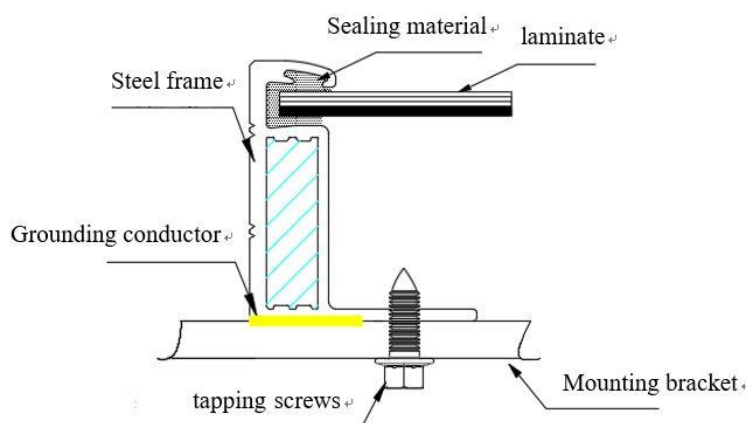

Fig.11-2 ST 4.8 pan head tapping screw grounding
- On a grounding hole with a diameter of $\phi 4$ mm, use a separate grounding wire and related accessories to connect the frame and connect the grounding wire to the ground. M4 x 12mm ground bolts with M4 nuts, star washers and plain washers are recommended for the aluminum frame, M5 pan head screws or ST 4.8 pan head tapping screws are recommended for high-strength alloy steel frames, see fig.11.2, this ensures that the modules are firmly grounded. You can find the corresponding product drawing in module datasheet to know the detailed number, size and position of the grounding holes. The torque applied to ground fixation is 4N· m~8N ·m.